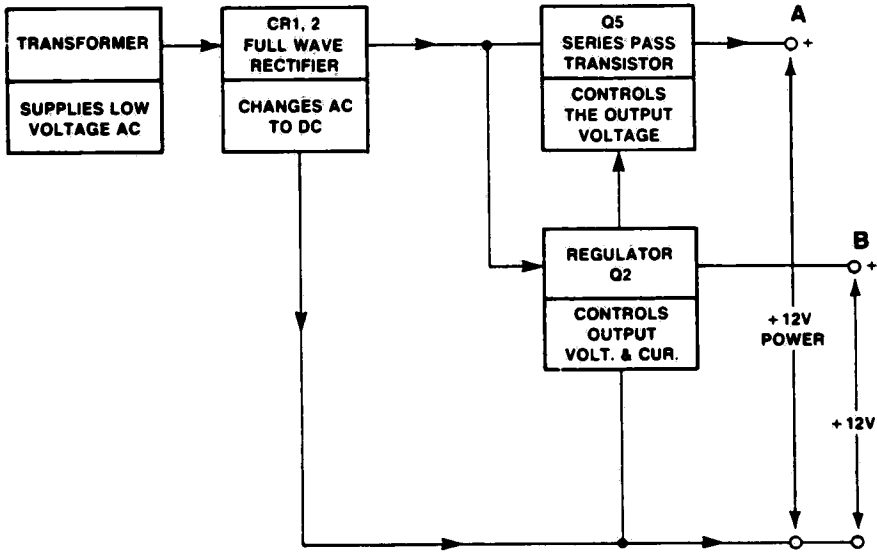

Figure 3-14. PRINTCON 12-VOLT POWER SUPPLY.
- +12 VDC at 0.1 amp, voltage regulated (Figure 3-14).
- +12 VDC at 1.5 amp, voltage regulated (Figure 3-14).
2. The +12 VDC regulated output is supplied by the +18 VDC unregulated circuit. The regulated +18 VDC supplies the integrated circuit regulator Q2 which regulates the output voltage (Point B, Figure 3-14).
3. The +12 VDC power output is also supplied by the unregulated +18 VDC power supply. Series pass transistor Q5 uses the +12 VDC regulated supply as a reference to regulate the +12 VDC power output (Point A, Figure 3-14).